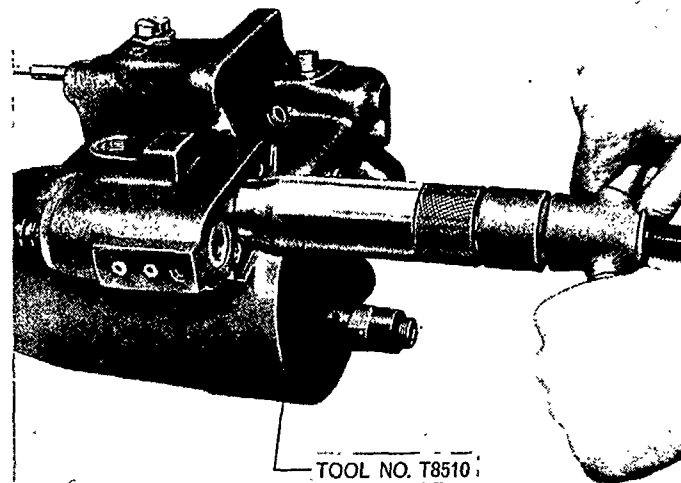

Figure 64
5. Attach remover Adaptor T.8510-1/g to Lift Cylinder Bushing Remover and Replacer No. T.8510 and screw the outer end of the Adaptor into the unload valve plug. The Main Tool T.8510 has a cutaway part which should be positioned on the protruding end of the cylinder so that it seats squarely. Remove the plug, Figure 64. Alternatively use Lift Cylinder Bushing Remover and Replacer No. N-508-A to remove the plug, inset—Figure 64.